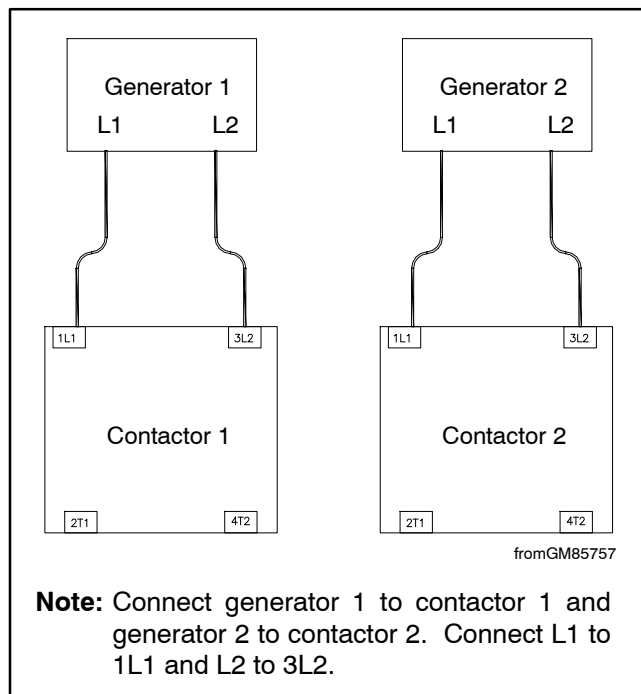

Figure 17 Generator Output Connections to APM Contactors (optional circuit breakers not shown)
6. Connect generator set AC output leads to the APM contactors or to the circuit breakers installed in Section 1.3, if used. Be sure to connect generator 1 to contactor 1 and generator 2 to contactor 2 in the APM. See Figure 17 or the wiring diagram, Figure 33.